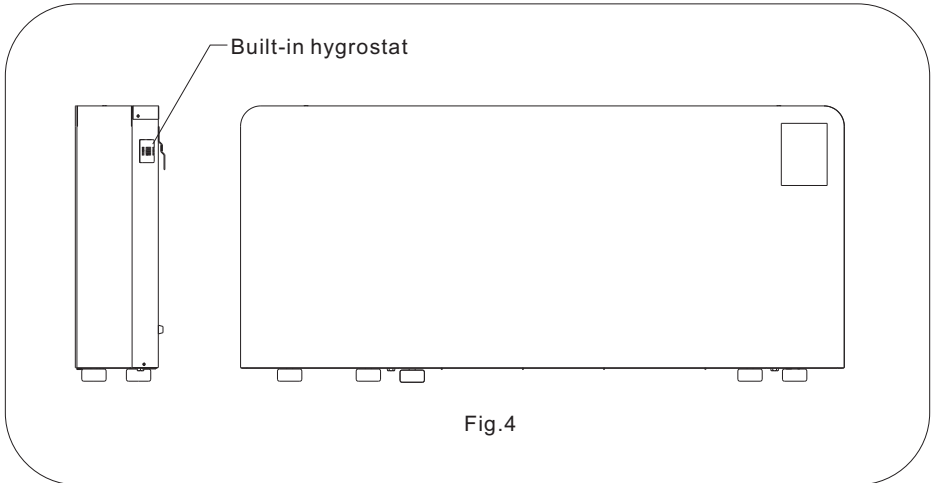

Fig.4
3.6.4 The location of hygrostat is as the following (Fig.4):